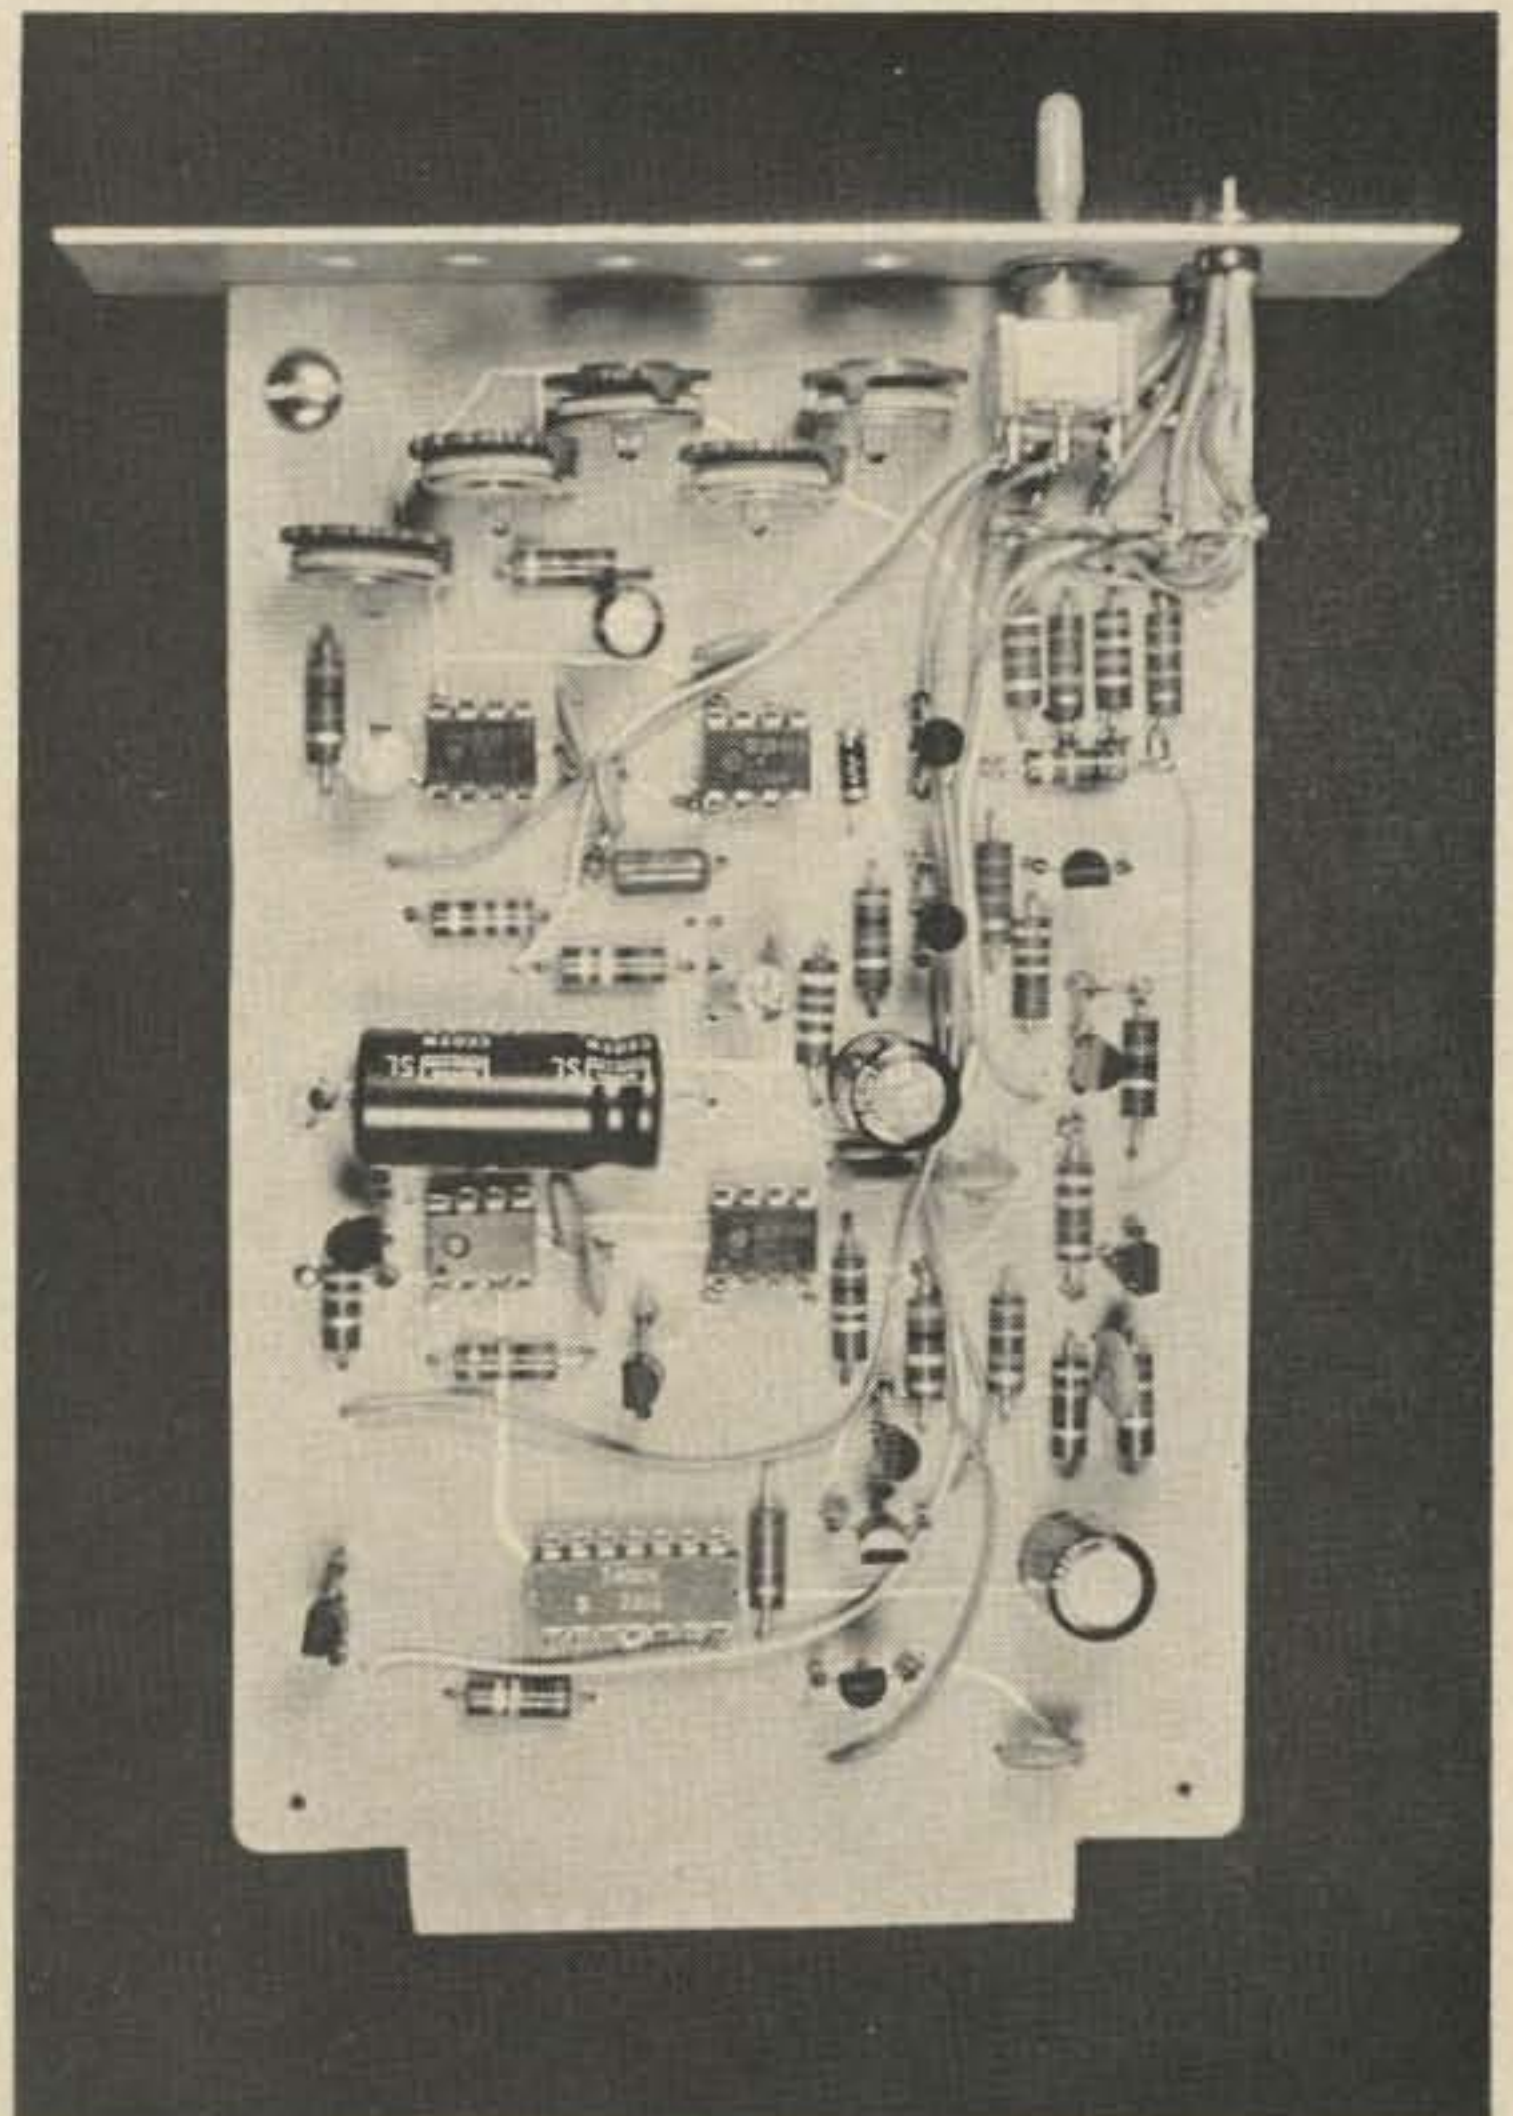

Fig. 5. Fig. 5(a) shows the common logic symbol for a two input NAND gate. Fig. 5(b) shows the truth table for the two input NAND gate.
The other IC employed in the digital COR circuitry is the SN7400 quad NAND gate. For those not familiar with logic circuitry, Fig. 5(a) shows the commonly used symbol for the two input NAND gate. Fig. 5(b) shows the truth table that governs its logic output.
on the input frequency at time (1), driving the collector of Q3 to a logic "0" voltage. Remembering the truth table for a NAND gate shown in Fig. 5(b), the "0" on pin 5 of IC1B drives pin 6 of IC1B to a logic "1." This removes the "0" from the reset terminal of the three minute timer, IC3, allowing its output to go to logic "1," and initiating its timing cycle. With both pins 12 and 13 of IC1C at logic "1," pin 11 is driven to a logic "0." Section IC1D of the quad NAND gate simply inverts the output of section IC1C, providing a positive keying voltage to the transmitter keying relay or keying circuit.